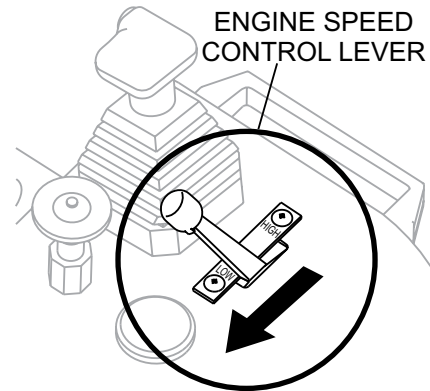

Figure 9. Engine Speed Control Lever (Low)
3. Place the engine speed control lever, Figure 9 in the LOW position.